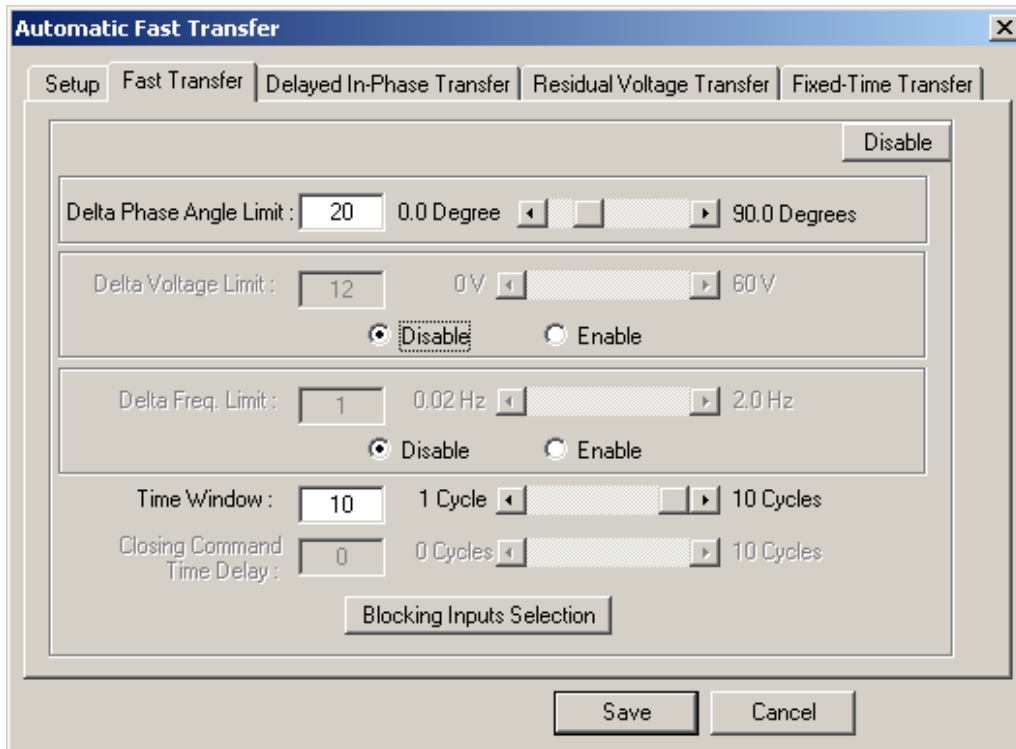
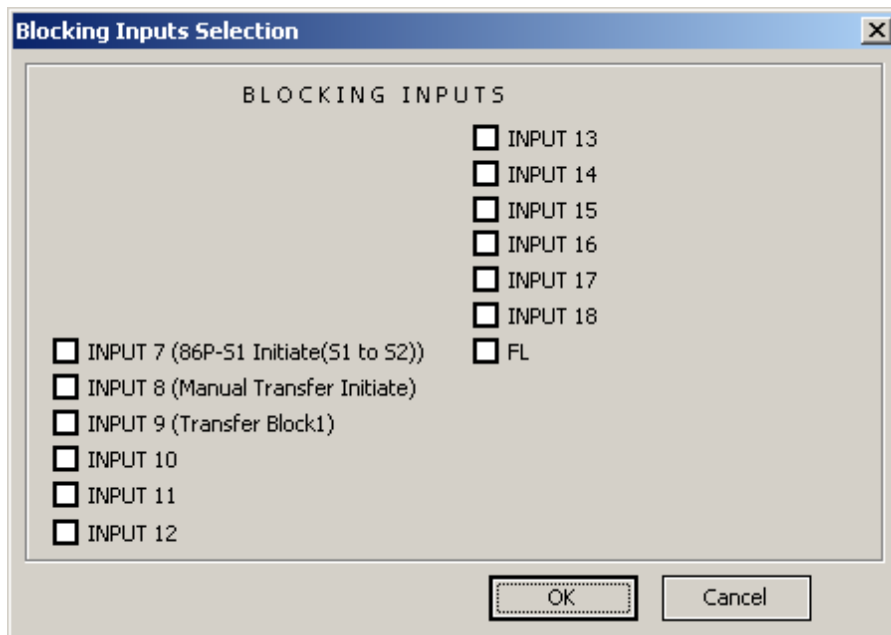

Figure 4-49 Automatic Transfer Settings Fast Transfer Tab Dialog Screen
Figure 4-50 Fast Transfer Blocking Inputs Selection Dialog Screen
The Fast Transfer tab (Figure 4-49) displays the settings for the Automatic Fast Transfer. The top right corner of the display includes a command button that will disable or enable the automatic fast transfer. This selection allows the Automatic Fast Transfer to be disabled (or enabled) independent from the Automatic In-Phase, Residual and Fixed Time transfers.
The Delta Phase Angle Limit (Figure 4-49) can be set from 0.0 to 90.0 degrees. The Delta Phase Angle is the angle between the voltages of the motor bus and the new source. This setting cannot be disabled, the phase angle is always one of the parameters used to determine if a fast transfer can be executed.
The Delta Voltage Limit (Figure 4-49) can be set from 0 to 60 volts. The Delta Voltage is the voltage difference between the motor bus and the new source. This setting can be disabled. If it is disabled then this parameter is not used as a condition to execute a Fast Transfer.
The Delta Frequency Limit (Figure 4-49) can be set from 0.2 to 2.0 Hz. The Delta Frequency is the frequency difference between the motor bus and the new source. This setting can be disabled. If it is disabled then this parameter is not used as a condition to execute a fast transfer.
The Time Window (Figure 4-49) can be set from 1 to 10 cycles. The Time Window defines the window of opportunity for a Fast Transfer. The Time Window starts when the transfer is initiated and ends at the selected time limit. If a Fast Transfer has not been completed by the end of this Time Window, then the Fast Transfer is disabled and will no longer attempted. An In-Phase, Residual or Fixed Time Transfer is still possible.
The Blocking Inputs Selection button (Figure 4-49) opens the Blocking Inputs Selection dialog screen (Figure 4-50). Any Input or the Fuse Loss (FL) function can be selected to block a Fast Transfer. When other functions such as External Status Reset are selected for these inputs it will be identified next to that input.
The Save selection (Figure 4-49) saves the Automatic Fast Transfer settings either to an open file or to the target MBTS. Cancel, returns the user to the previous open screen.
The Blocking Inputs Selection button opens the Blocking Inputs Selection dialog screen (Figure 4-50). Any Input or the Fuse Loss (FL) function can be selected to block a Delayed In-Phase Transfer. When other functions such as External Status Reset are selected for these inputs it will be identified next to that input.
The Blocking Inputs Selection button opens the Blocking Inputs Selection dialog screen (Figure 4-50). Any Input or the Fuse Loss (FL) function can be selected to block a Delayed Residual Voltage Transfer. When an input is selected, it is not grayed out in the other types of transfers.
The Blocking Inputs Selection button opens the Blocking Inputs Selection dialog screen (Figure 4-50). Any Input or the Fuse Loss (FL) function can be selected to block a Fixed Time Transfer. When an input is selected, it is not grayed out in other types of transfers.